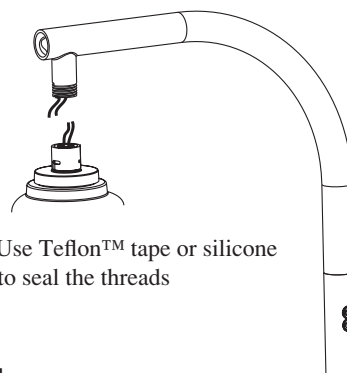

Figure 4
- 4 Attach the dome to the bracket, making wiring connections per the dome's instructions (Figure 4).